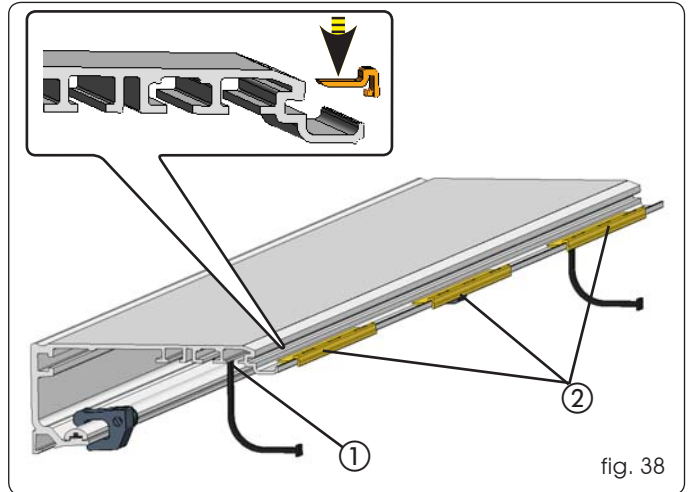

fig. 38
Check if the parachute cables are present, and, if necessary, secure them on the two ends of the support profile, housing the bigger end of the cable in the seats (Fig. 38 ref. ①).
Check if the three anti-vibration spacers (Fig. 38 ref. ②) are present, and, if necessary, insert them on the outer edge of the support profile, positioning them at the ends and centrally (for profiles of over 3 meters).